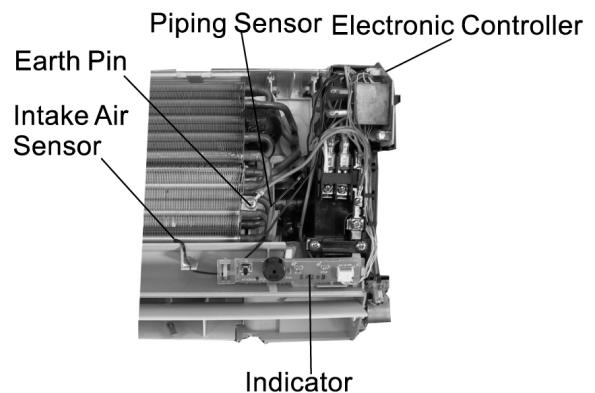

Fig 5
2. Release the drain hose and the intake air temperature sensor and piping temperature sensor and remove the discharge grille. Release the earth lead wire on the evaporator. (**Fig 5**)